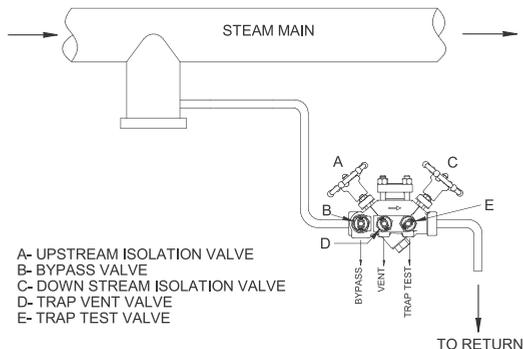

Figure 5 : Typical installation of CMTD62M-F on Main Steam Line.
3. The preferred installation is in a horizontal pipe with the top cover uppermost as shown in figure 5. The steam trap will operate in any position, but the service life may be affected.
6.1. Flushing of lines: [Refer figure 5]
6.2. Commissioning: [Refer figure 5]
6.3. Commissioning with particular reference to vent air: [Refer figure 5]